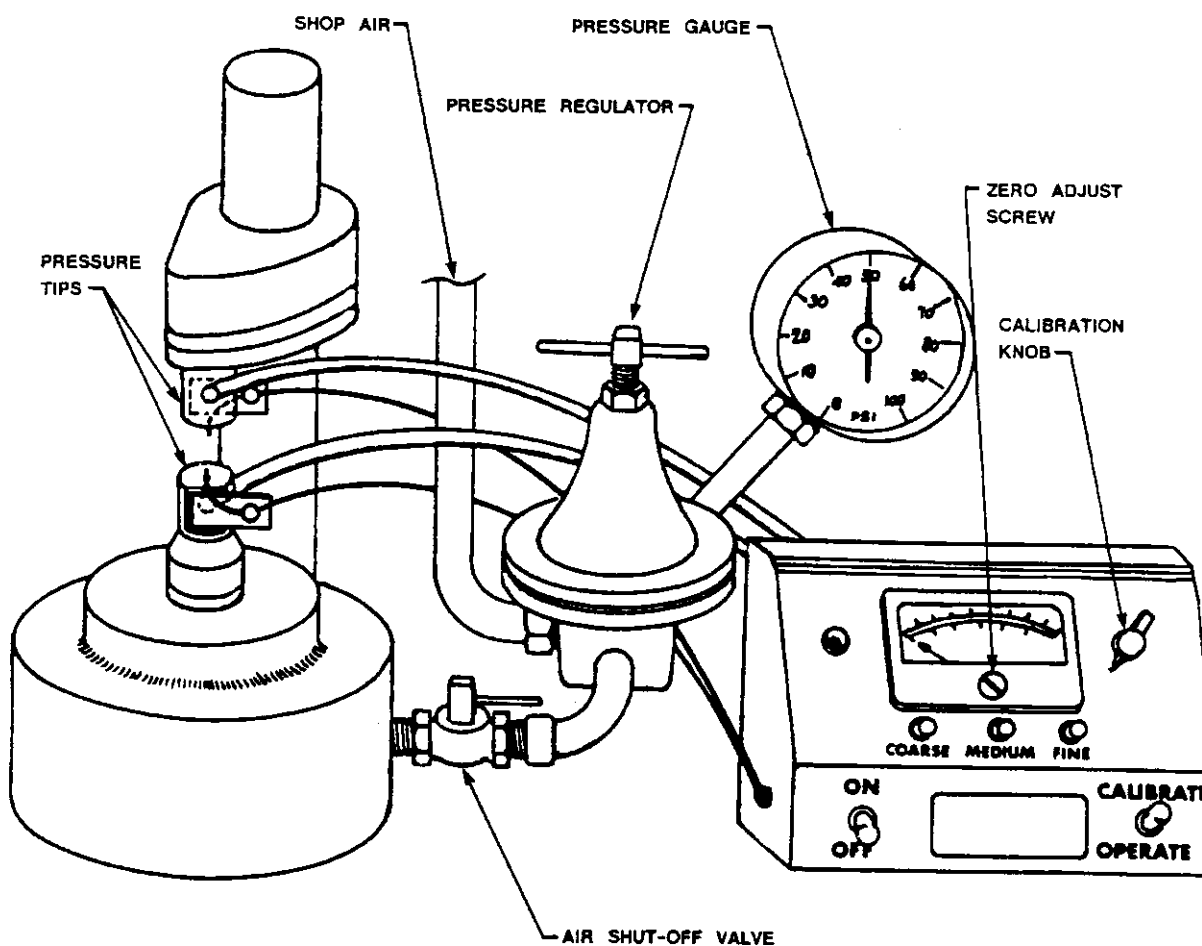

FIGURE 1 - SURFACE RESISTANCE ANALYZER, MODEL NO. VT-II-A
5.3.1 Set-up Model No. VT-II-A surface resistance analyzers (see Figure 1) as follows: